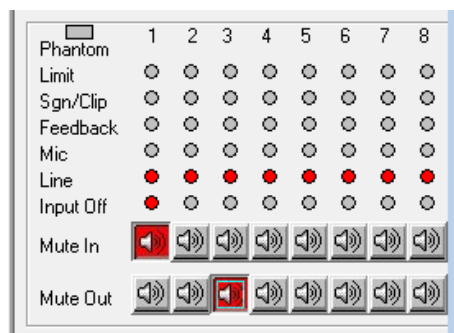

Fig. 31 Status display and muting
Regardless of the view selected, the indicators and controls on the right-hand side of the window are always available. They show the status and adjustments of the channels (fig. 31) just like the status LEDs (4) on the unit (chapter 5.4).
Use the buttons "Mute In" to mute the inputs, and use the buttons "Mute Out" to mute the outputs (fig. 31). To mute or unmute a channel, click the appropriate button of the